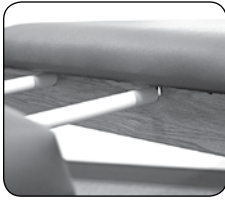

Fig. 7
1. The table is equipped with two outlet holes at either end to allow the use of a Table Extender and a Paper Roll Holder. Unfold the aluminum dowels of the extender and insert them into the outlet holes at either end of the table. (Fig. 7 & Fig. 8) The Paper Roll Holder has dowels to insert into the outlet holes as well and will be held securely for ease of use. (Fig. 8)